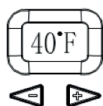

Figure 20
9. Temperature adjustment function: The startup temperature is the previous set temperature, and the cooling temperature can be adjusted by pressing the "+" or "-" buttons on the control panel. Each time the "+" button is pressed, the temperature increases by one degree, Press the "-" button once to lower the temperature by one degree. The display screen displays the actual temperature of the beer in the keg. Press any button to display the set temperature, and after 3 seconds, return to the actual temperature. Press and hold down the "-" button to cycle through 6 preset temperatures to set 4 °C (40 °F), 8 °C (46 °F), 9 °C (48 °F), 10 °C (50 °F), 11 °C (52 °F), and 12 °C (54 °F). Press and hold down the "+" button to switch between Fahrenheit and Celsius. The cooling temperature of the beer machine can be adjusted between 2~12 °C (36~54 °F). The machine has power off memory function (factory set to 40°F) (as shown in Figure 20).